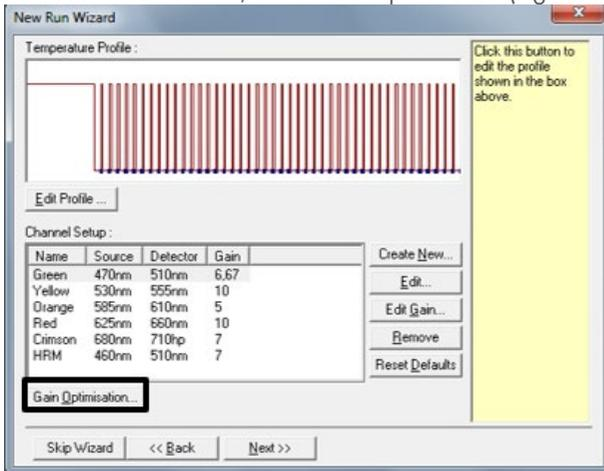

Figure 18. Gain Optimisation.
24. In the next window, click Gain Optimisation (Figure 18).